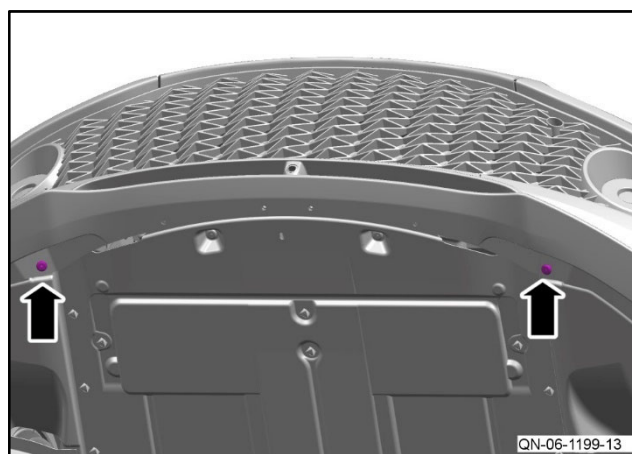

Figure 19
- 20** Install and torque the two screws for the front bumper cover to 5 Nm (refer to Figure 19).